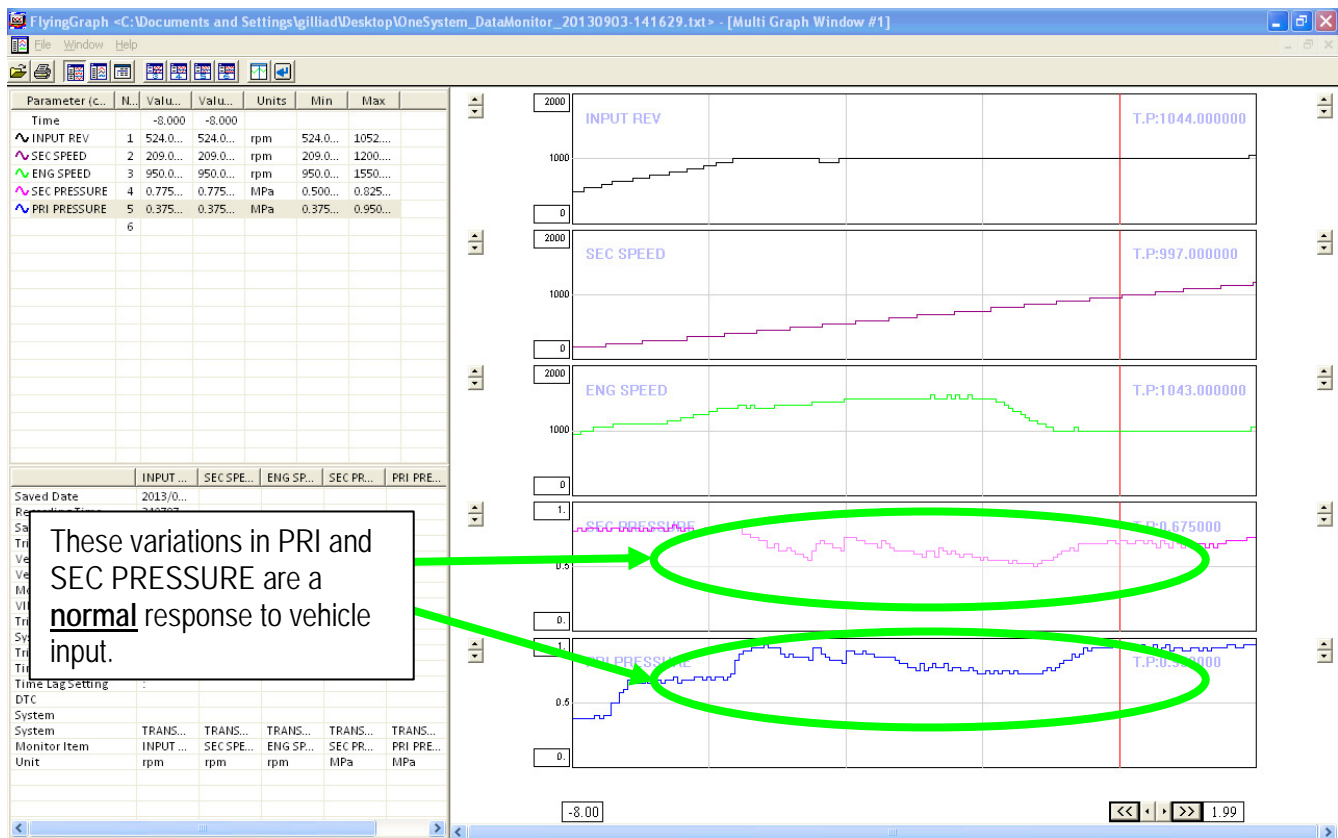

Figure 14
NOTE: Figure 14 shows INPUT REV, SEC SPEED, ENG SPEED, PRI PRESSURE and SEC PRESSURE from a vehicle that does not have a judder present.
- If a judder is present and the recorded data review shows that the data lines are smooth with no oscillations as shown in Figure 14 above refer to Torque Converter Replacement on page 17.